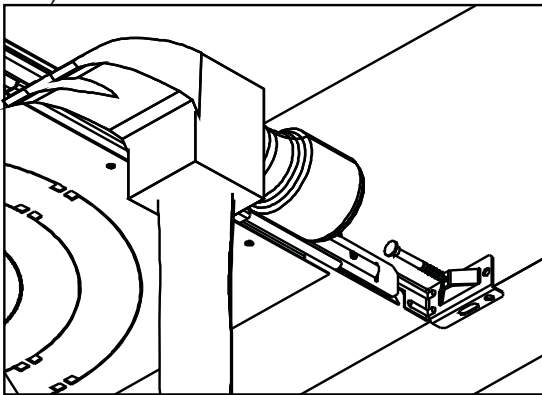

Figure 2
2. Extend the bar hangers to fit between the joist. Using the built in leveler, line fixture up with bottom of the wood joist. Using a hammer, secure the plate to the wood joist with the built in step nail (See Figure 2).